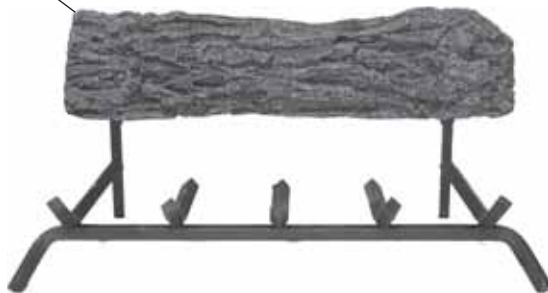

Figure 53 - Placing Back Log (#2) on Grate Bars in Back of Grate
1. Place Back Log #2 on grate bars on back of grate. *See Figure 53.*